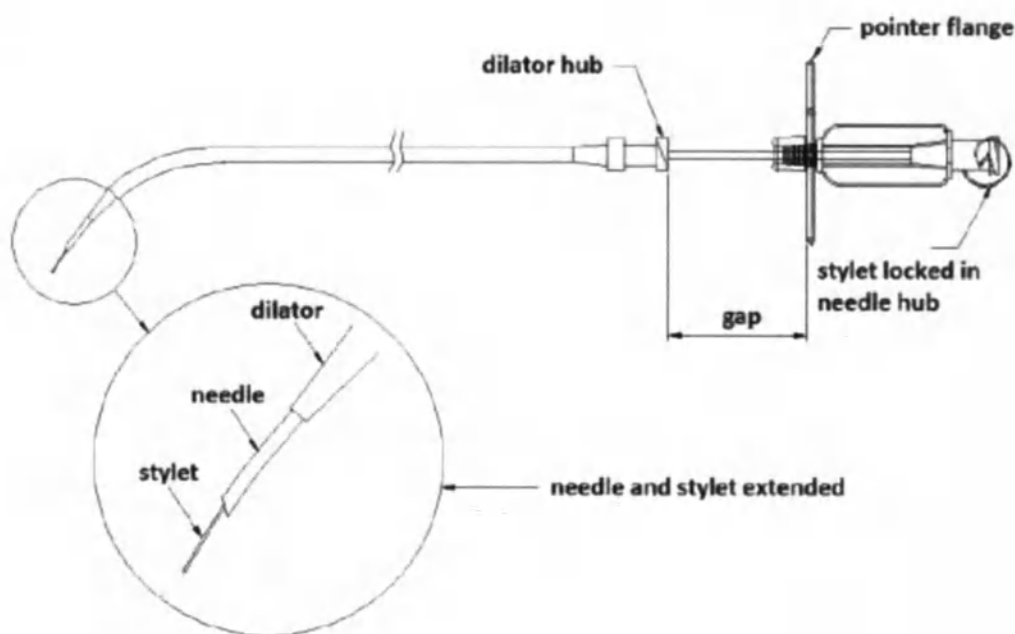

Fig. 1
- Insert the needle assembly into the sheath/dilator. Due to the stop feature of the dilator, there will be a gap between the dilator hub and the needle pointer flange. (See Fig.1. Magnification is 2.9).